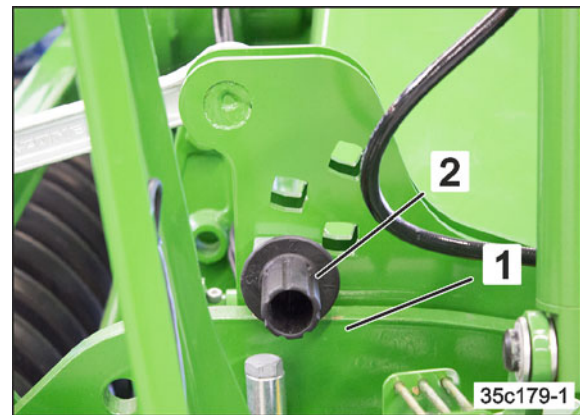

Fig. 106
- The carrying arms (Fig. 106/1) are supported by the depth setting pins (Fig. 106/2).
7. Check that both carrying arms (Fig. 106/1) are resting on depth setting pins.